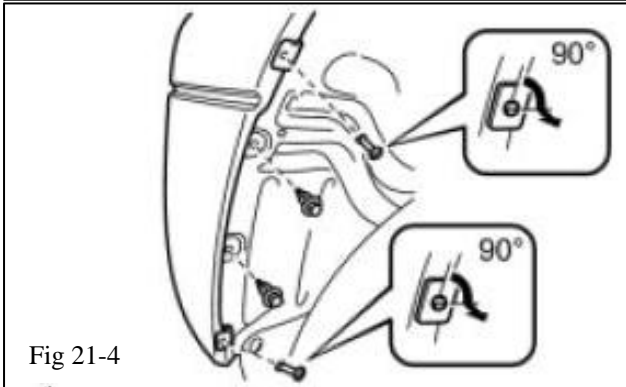

Fig 21-4
- (d) Using a screwdriver, remove the two pin hold clips from each side (Fig 21-4). Then, using a clip remover, remove the 2 clips from each side.